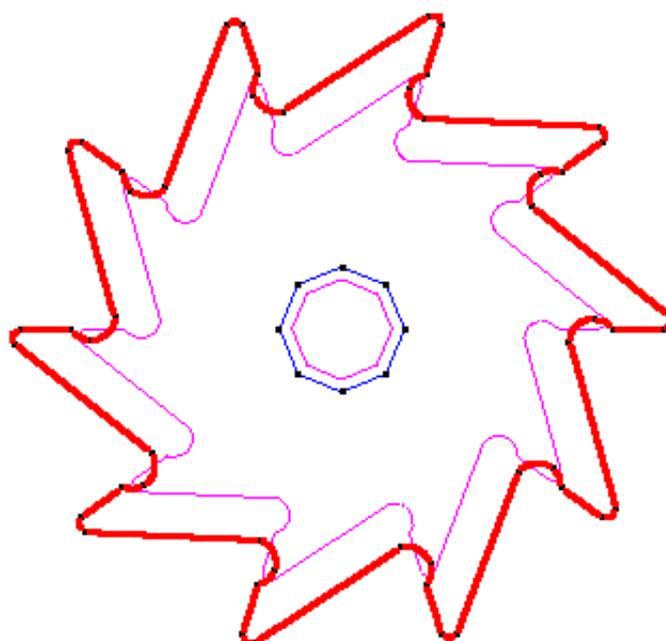

Figure 37. Selected lines of the wheel profile
- 3 . Choose **Mesh->Unstructured->Assign sizes on lines**. A window appears in which to enter the element size around the lines to be selected. Enter size 0.7. Select only the lines of the wheel profile (Figure 37) in the same way as in previous section.